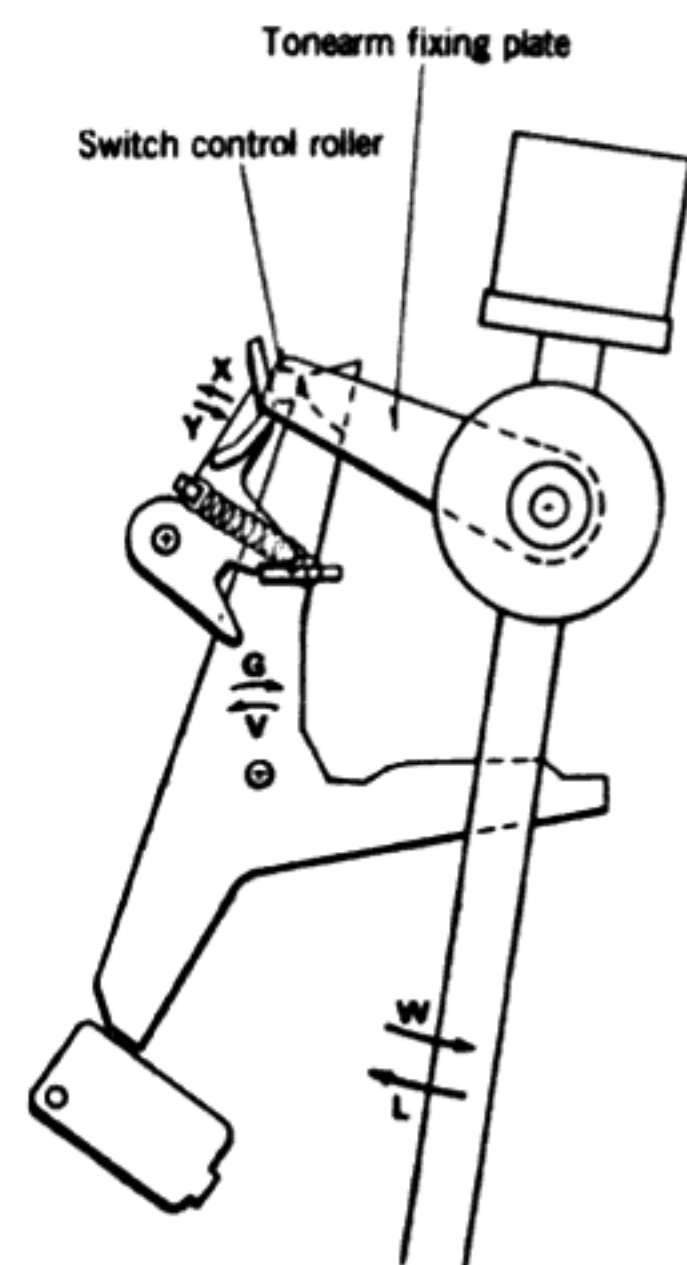

Fig. 5
6. Manual performance (Figure 5)